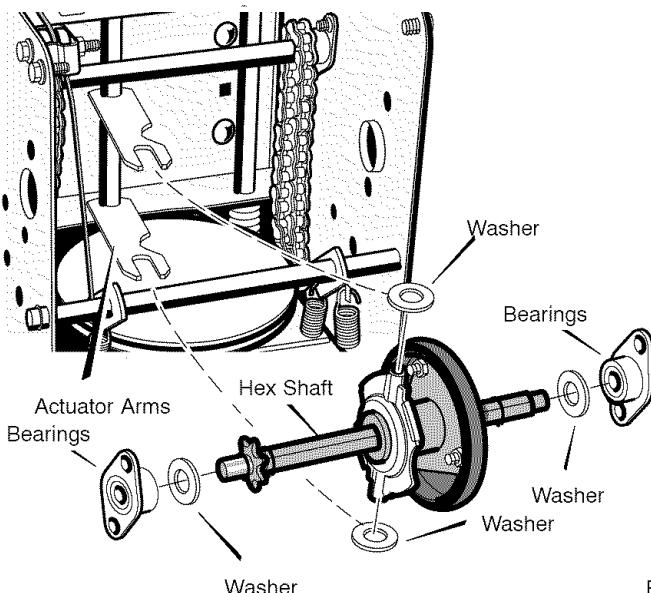

Figure 45
14. Install the **hex shaft** and **bearings** with the four bolts removed earlier (see Figure 45).